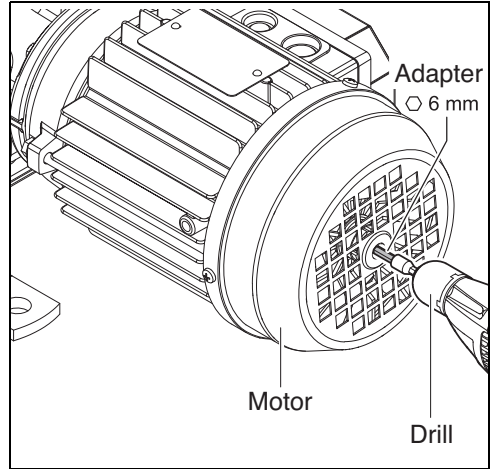

Fig. 32
- ▶ Connect a drill with an adapter hexagon 0.24 in (6 mm) or Torx /TX T 40. Minimum tool length: 1.75 in (45 mm) (see Fig. 32).